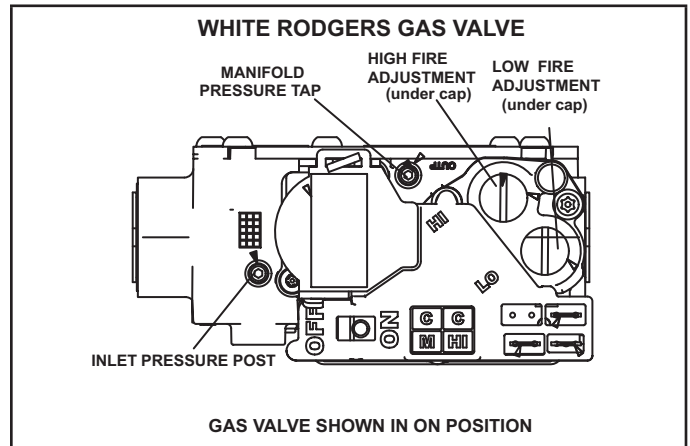

FIGURE 47
#### Gas Valve Operation (FIGURE 47)
- 6 - Move gas valve switch to **OFF**. See FIGURE 47.
- 8 - Move gas valve switch to **ON**. See FIGURE 47.
An inlet pressure post located on the gas valve provides access to the supply pressure. See FIGURE 47. Back out the 3/32 hex screw one turn, connect a piece of 5/16 tubing and connect to a manometer to measure supply pressure. See TABLE 25 for supply line pressure.
A manifold pressure post located on the gas valve provides access to the manifold pressure. See FIGURE 47. Back out the 3/32 hex screw one turn, connect a piece of 5/16 tubing and connect to a manometer to measure manifold pressure. To correctly measure manifold pressure, the differential pressure between the positive gas manifold and the negative burner box must be considered.
- 4 - After allowing unit to stabilize for 5 minutes, record low fire manifold pressure and compare to value given in TABLE 25. If necessary, make adjustment. FIGURE 47 shows location of low fire adjustment screw.
- 5 - Repeat on high fire and compare to value given in TABLE 25. If necessary, make adjustment. FIGURE 47 shows location of high fire adjustment screw.